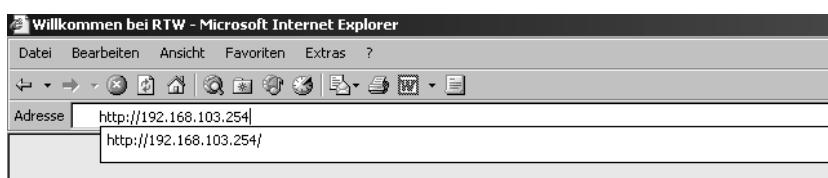

Fig. 8-3: Entering the IP-Adress
1. Start your internet browser and enter the IP address in the address field (e. g.: <http://192.168.103.254>, see Fig. 8-3) followed by the hit of the return (Enter) key.